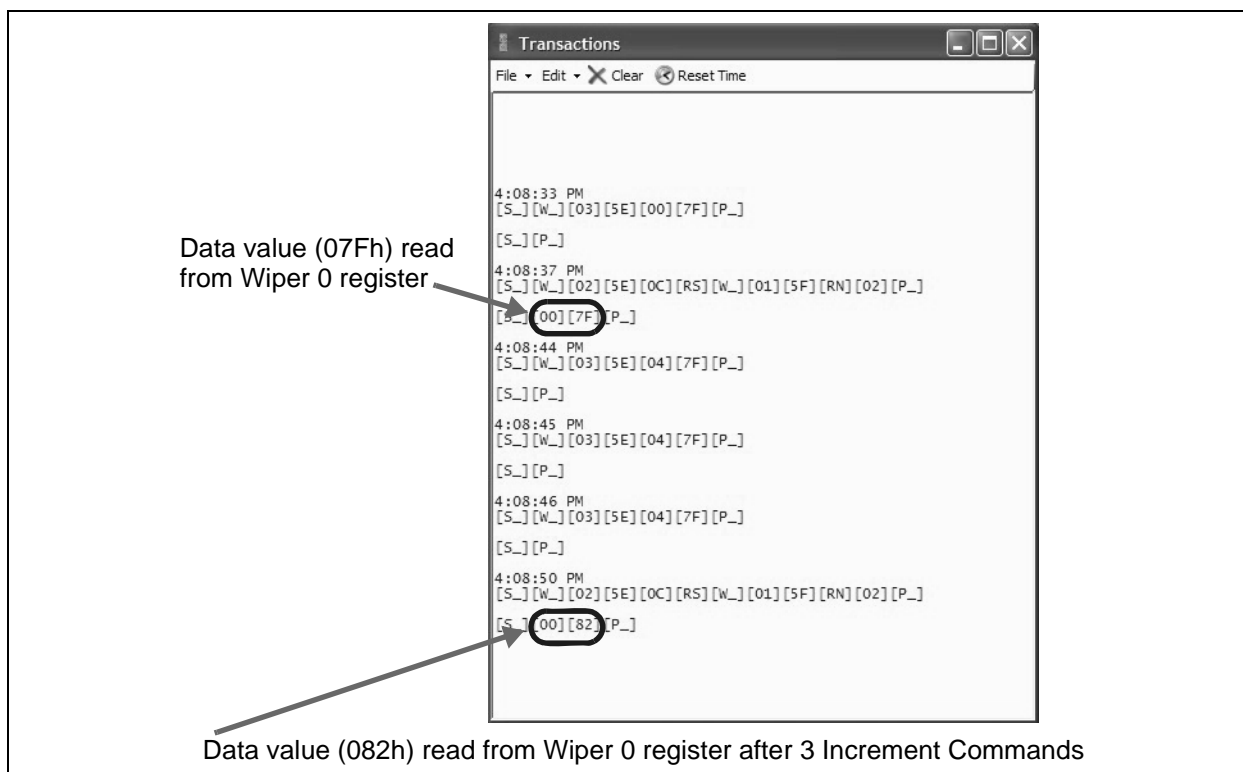

FIGURE 2-19: MCP4661 Transaction Window - Wiper 0 Increments.
32. Select the “MCP4661W0RD” script in the User I2CM Scripts column and then click on the **Execute Script** button. The Transaction window shows the scripts that were executed and the current value of the Wiper 0 (see Figure 2-19).